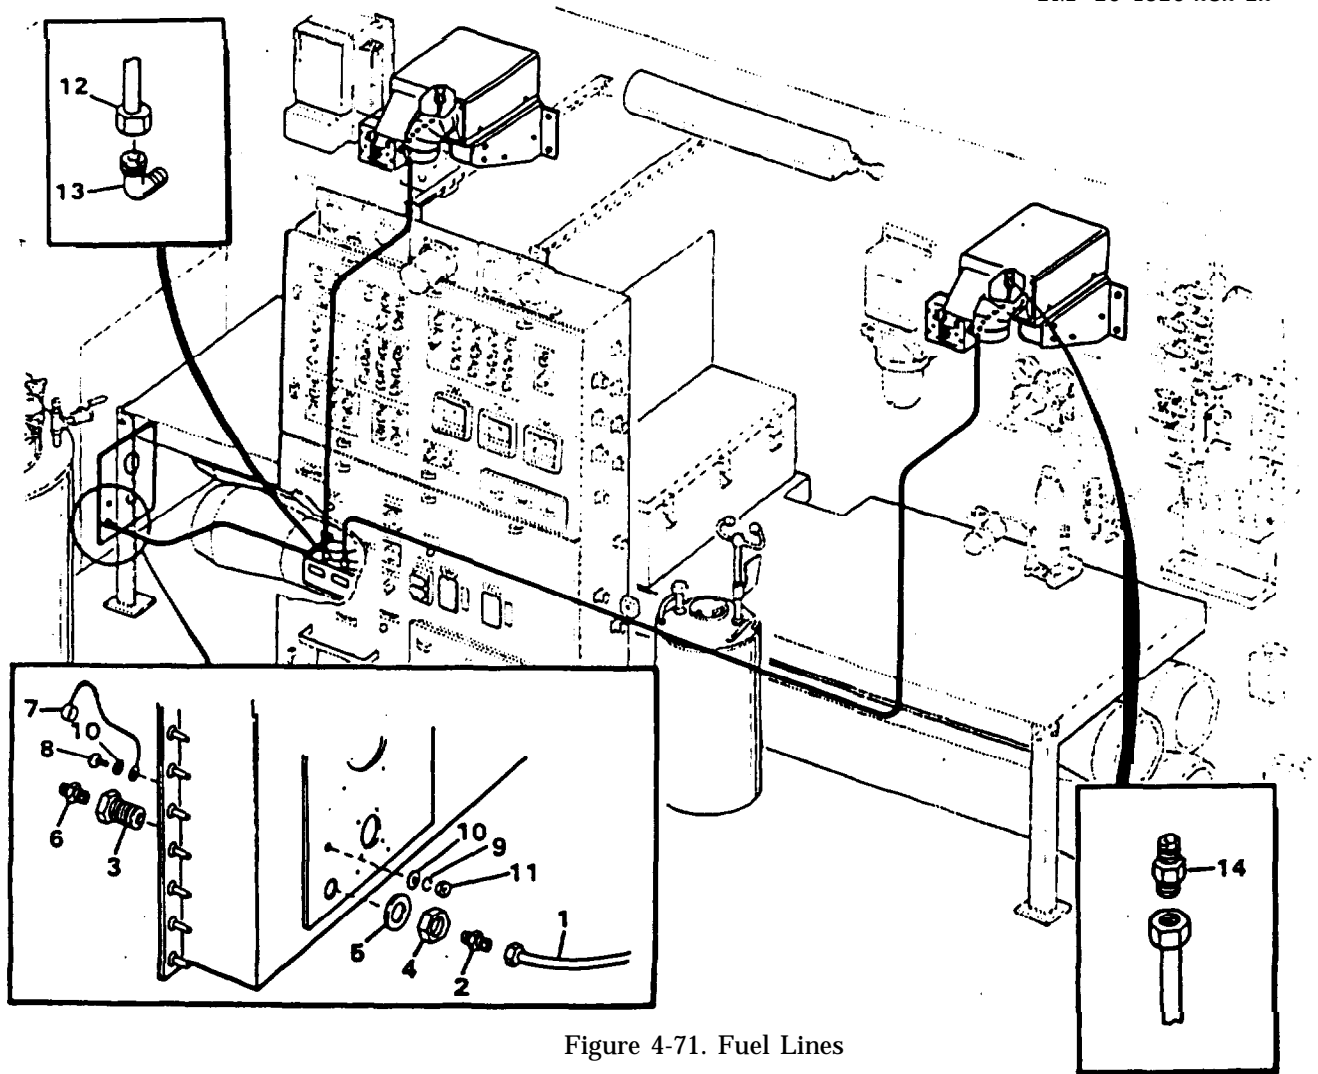

Figure 4-71. Fuel Lines
- g. Install elbow (18) to nipple (20). Install nipple (20) into fuel bowl (21).
- h. Install fuel bowl (21) to nipple (22) and install into pump body (23).
- i. Holding the pump assemblies, thread elbow (18) onto nipple (19).
- j. Place assembled pumps onto bracket (16 )and fasten with capscrews (10), (11) DELETED, washers(12), nuts (13), lockwashers(14) and washers (15).
- a. Install pump assembly into position and place ground wires onto threaded end of capscrew (38). Fasten pump and bracket assembly (16) with locknuts (7) and washers (9). (8) DELETED.
- b. Place cover into position and fasten with nut (31), (32) DELETED, and washer (33) and installing capscrews (4), washers (5) and lock nut (6).
- a. Disconnect fuel line (1, Figure 4-71).